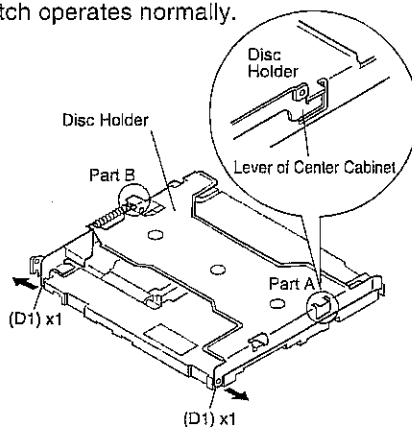
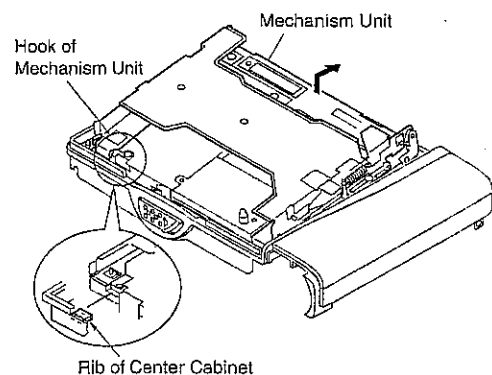

Figure 7-5
Figure 7-4
1. When fitting the mechanism unit into the center cabinet, engage the rib of center cabinet with the hook of mechanism unit (see Figure 7-4), insert the part A and part B of lever of center cabinet into the hole of disc holder (see Figure 7-5) and between the disc holder and the mechanism unit, respectively.